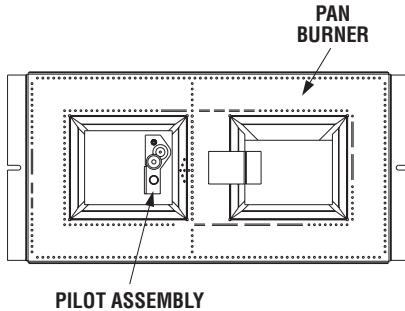

Figure 68
B. Install the burner as shown in **Figure 68**.